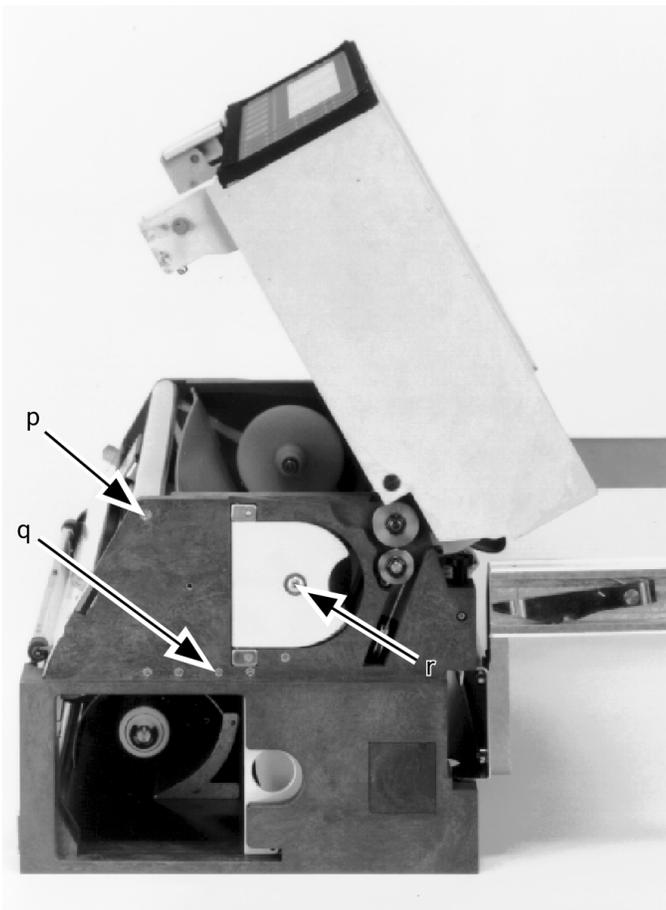

Figure 5.12.3g
- p Upper chart guide fixing screws (2 places) (figures 5.12.3g and h)
- q Drive cord pulley fixing screws (3 places) (figures 5.12.3g and h)
- r Pay-off spool stub shaft and access door fixing screws (2 places) (figures 5.12.3g and h)